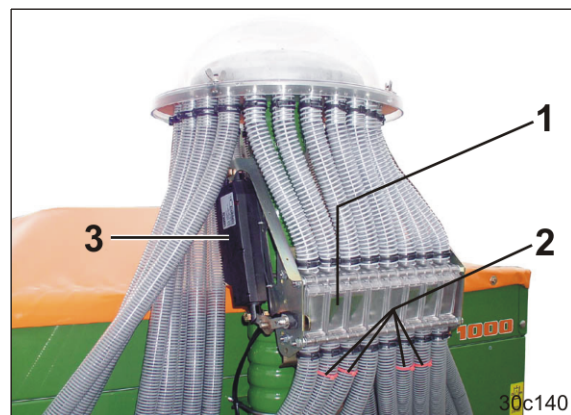

Fig. 68
- the tramline flaps in the flap box (Fig. 68/1) interrupt the seed supply to the seed lines (Fig. 68/2) of the tramline coulters. An electric motor (Fig. 68/3) actuates the tramline flaps.
The active flaps of the flap box are marked. Red cable ties (Fig. 68/2) on the seed tubes mark the active tramline flaps.